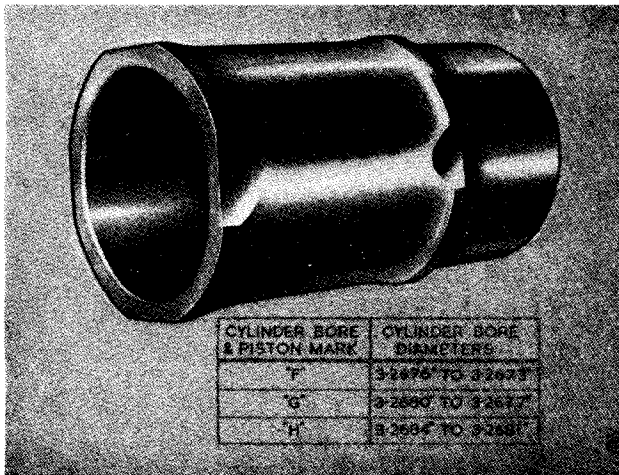

Fig. 3 Cylinder Sleeves and Dimensions.
- (c) **The Cylinder Sleeves** (Fig. 3) are of the wet type, being centrifugally cast in nickel chrome iron and provided with flanged upper faces, having two pairs of flats at 90° to one another.